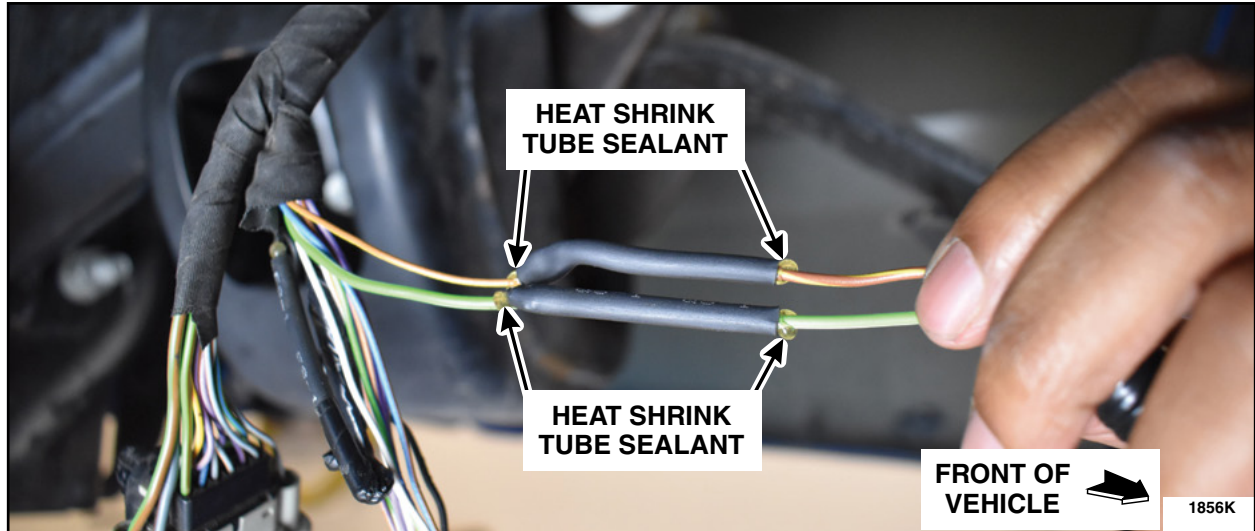

FIGURE 13
16. Position the dual wall heat shrink tubes over the solder joints making sure the joints are located in the middle of the tubes. Evenly heat up the heat shrink tubes until the heat shrink tube sealant bubbles out of both ends. See Figure 13.